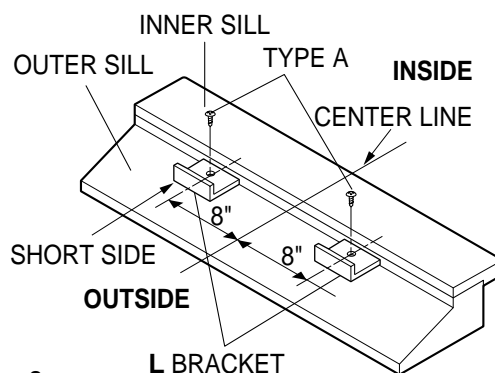

Figure 8
- a. Carefully lift the air conditioner and slide it into the open window. Make sure the bottom guide of the air conditioner drops into the notches of the L bracket. See Figure. 8.